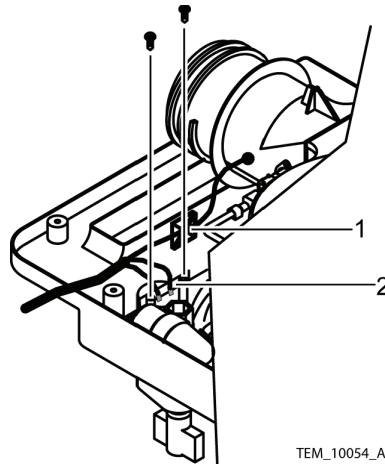

Figure 69. Thermistor Cable Removal
20. Remove the thermistor cable terminal board (Figure 69, item 2).
21. Cut the cable tie securing the thermistor cable to the rear cover assembly (Figure 69, item 1).